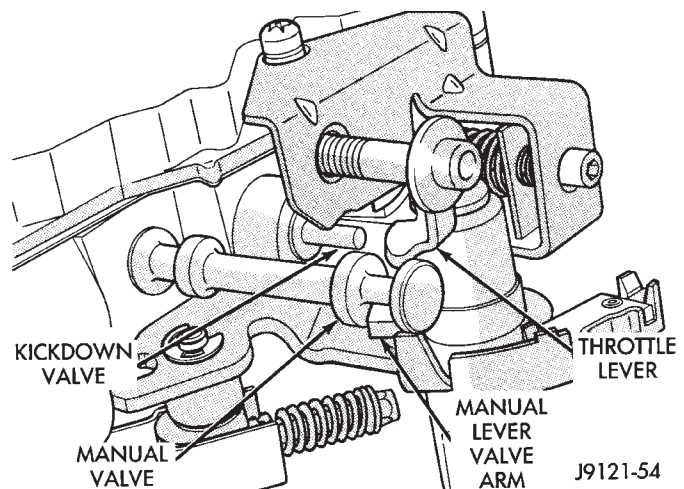

Fig. 136 Manual And Throttle Lever Alignment
(8) Align manual lever with detent ball and manual valve. Hold throttle lever upward. Then press down on manual lever until fully seated. Remove detent ball retainer tool after lever is seated.
(9) Then Install manual lever seal, washer and E-clip.
(10) Lubricate solenoid case connector O-rings and shaft of manual lever with light coat of petroleum jelly.
(11) Verify that throttle lever is aligned with end of kickdown valve stem and that manual lever arm is engaged in manual valve (Fig. 136).
(12) Install boost valve, valve spring, retainer and cover plate. Tighten cover plate screws to 4 N•m (35 in. lbs.) torque.
(13) Obtain new fluid filter for valve body but do not install filter at this time.
(14) If line pressure and/or throttle pressure adjustment screw settings were not disturbed, continue with overhaul or reassembly. However, if adjustment screw settings were moved or changed, readjust as described in Valve Body Control Pressure Adjustment procedure.